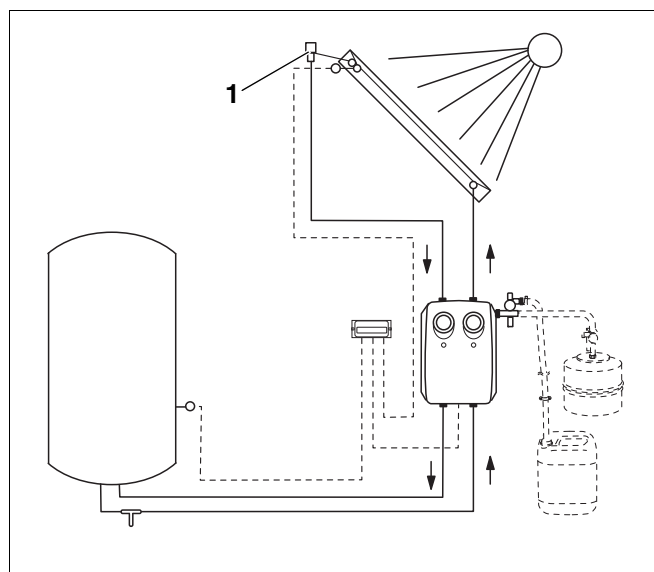

Fig. 4 Position of the automatic air vent valve
- ▶ If you intend venting a solar heating system with an automatic air vent valve (Fig. 4, **Item 1**) at the highest point of the system, run your pipework rising to the air vent valve. Any change of direction downwards requires an additional air-vent valve (use all metal vents; temperature resistance up to 150 °C).